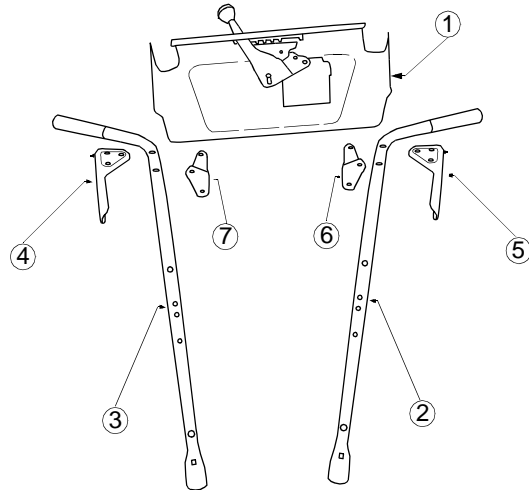

Figure 3
6. Find the loose parts in the carton and lay these on the floor. See Figure 3. You should locate the following loose parts in the carton:
2. Locate auger control grip, part #4 in Figure 3. The triangular metal tab on the auger control grip must face the center of the handle panel.